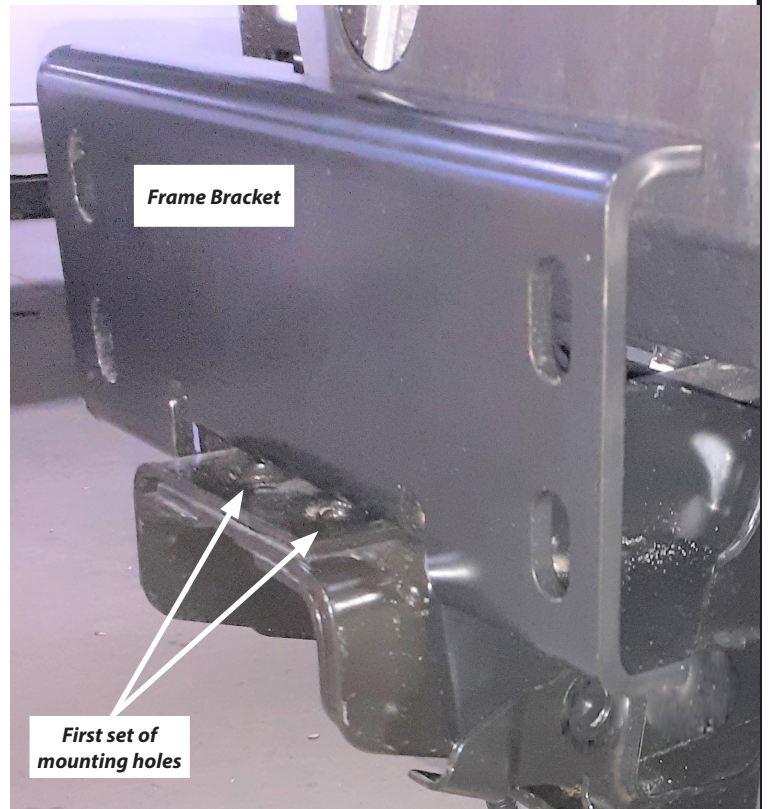

Figure 8
- b. Line up the frame bracket's top mounting holes with the rear most holes (factory tow hook mounting holes) in the vehicle frame rail. *TIP: The frame bracket face will sit behind the first set of frame rail mounting holes. See Figure 8.*